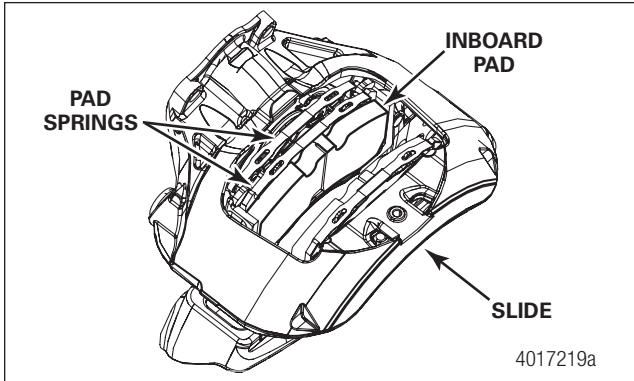

Figure 6.19 Slide the caliper in.
- Slide the caliper INWARD. Install the inboard pad and two springs into the inboard side of the caliper, install the pad spring onto the piston tappet. Figure 6.19.